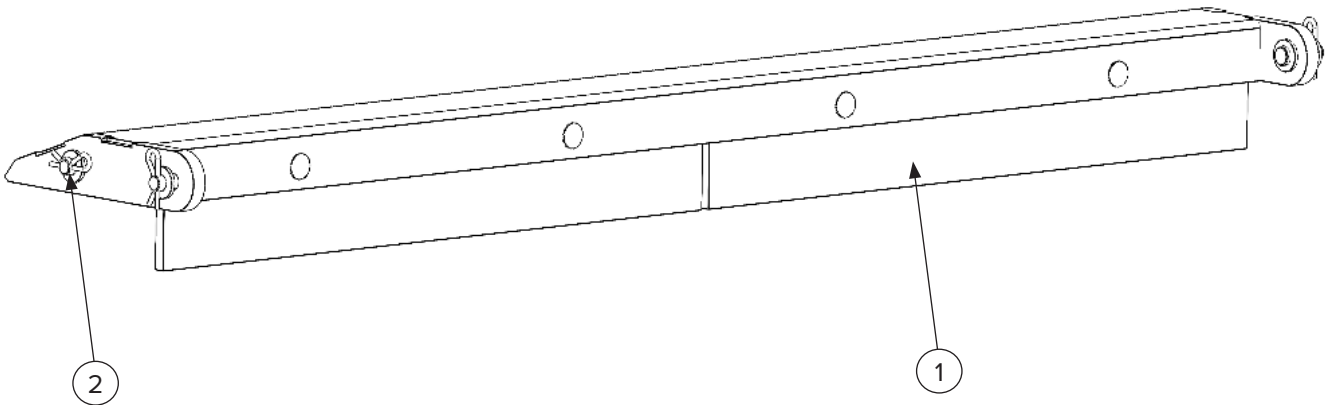

Figure 15
- Inspect the rubber skirt for wear [Figure 15, Item 1].
1. Remove hairpins and clevis pins [Figure 15, Item 2].